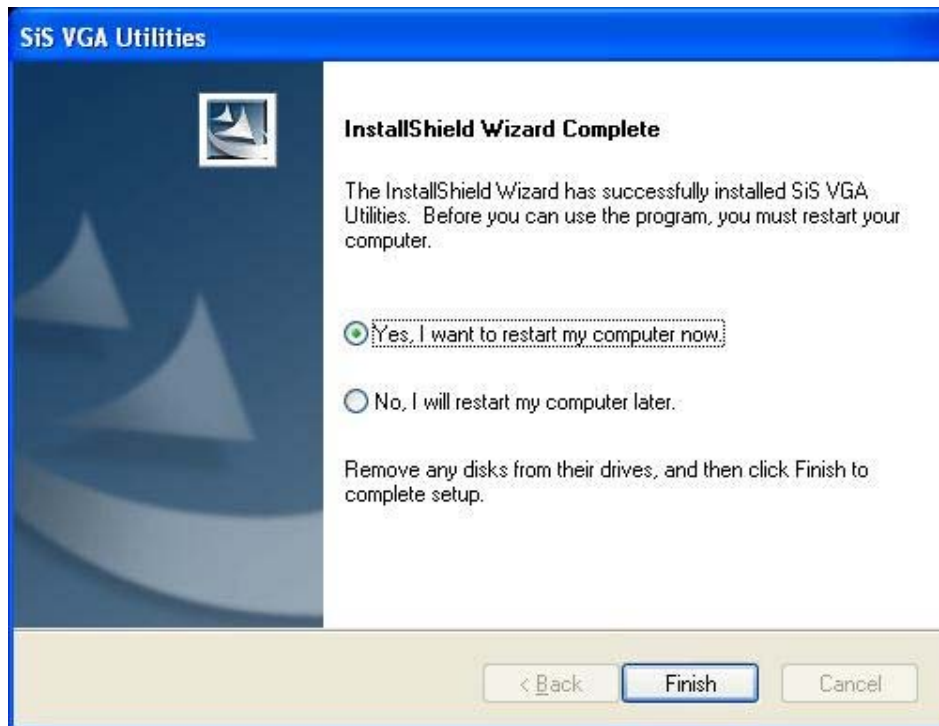

Figure 6-11: Restart the Computer
Step 5: The “Starting InstallShield Wizard” in **Figure 6-11** appears.